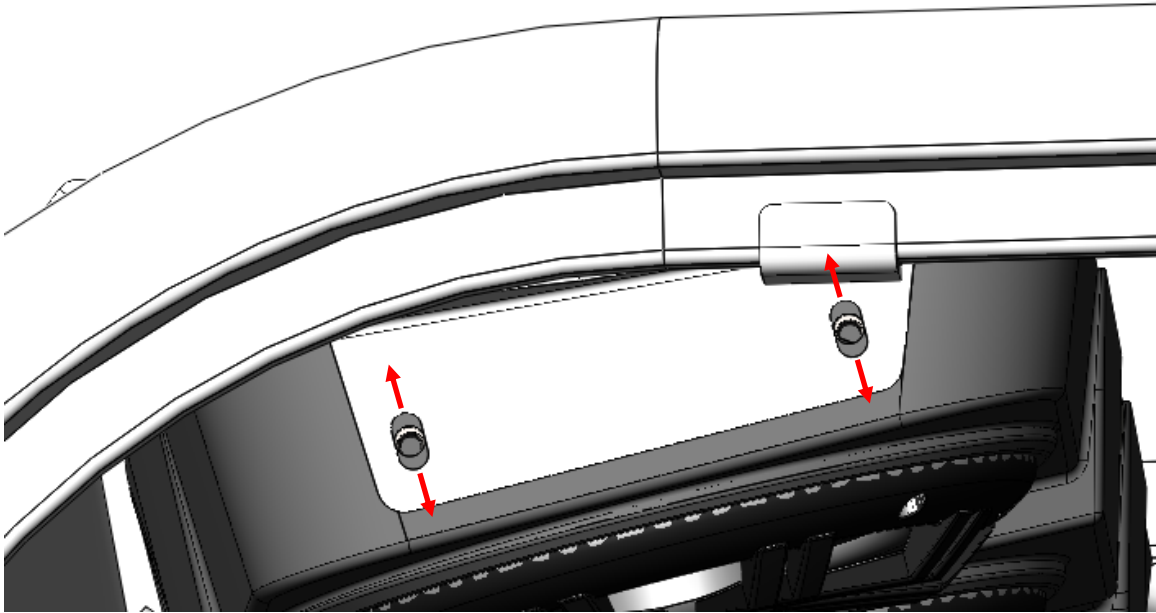

Figure 8: Up-down adjustability of the Audio Mini.
- Reinstall the *Audio Mini* on the mounting brackets, and tighten the 4 mounting bracket bolts after achieving the desired viewing position relative to the visor. Slots in the brackets allow for adjustability to achieve your desired viewing position. See Figure 8. Torque the bolts to 10 ft.-lbs.